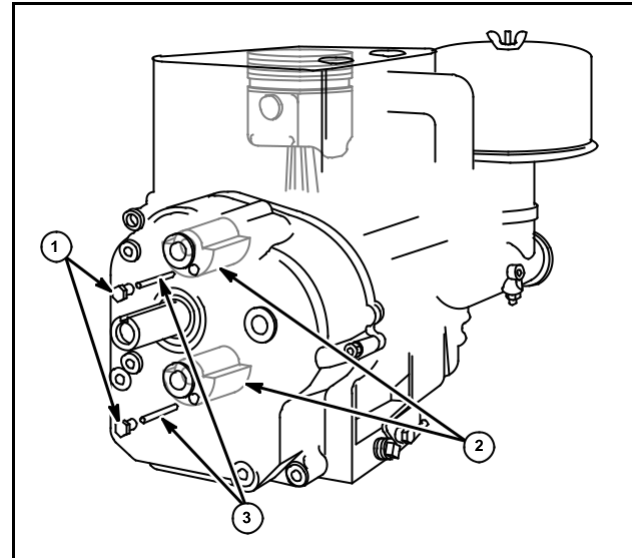

Fig. 7 – Timing Counterbalance Gears
1. Remove two small screws (1) from cover.
2. Insert 1/8" (3 mm) diameter locating pins (3) through screw hole and into timing hole provided in counterweights (2), Fig. 7.